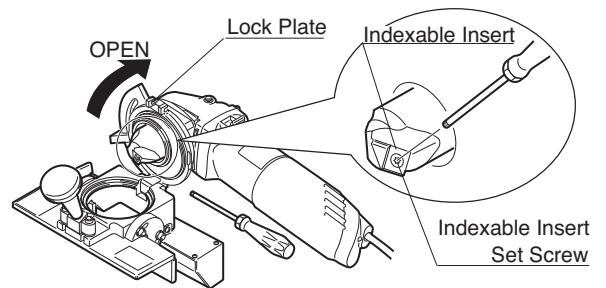

Fig. 17
- (2) Open the Lock Plate with the Knob laid down. (Fig.17)
- (3) Remove the Indexable Insert Set Screw using the Spanner T-15D attached to take off the Indexable Insert. (Fig.17)
- (4) Mount a new Indexable Insert (including use of reverse surface) paying attention to the direction of the Indexable Insert. (Fig.17)